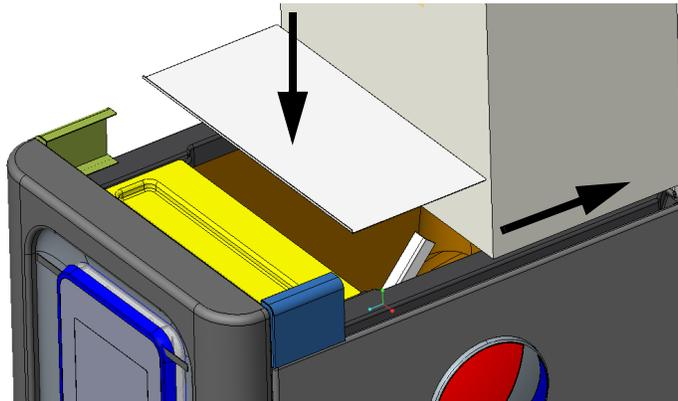

Figure 3.
2. Place the new sheet metal cover down on the silicone bead, then push the cover toward the ice maker as shown in Figure 3.